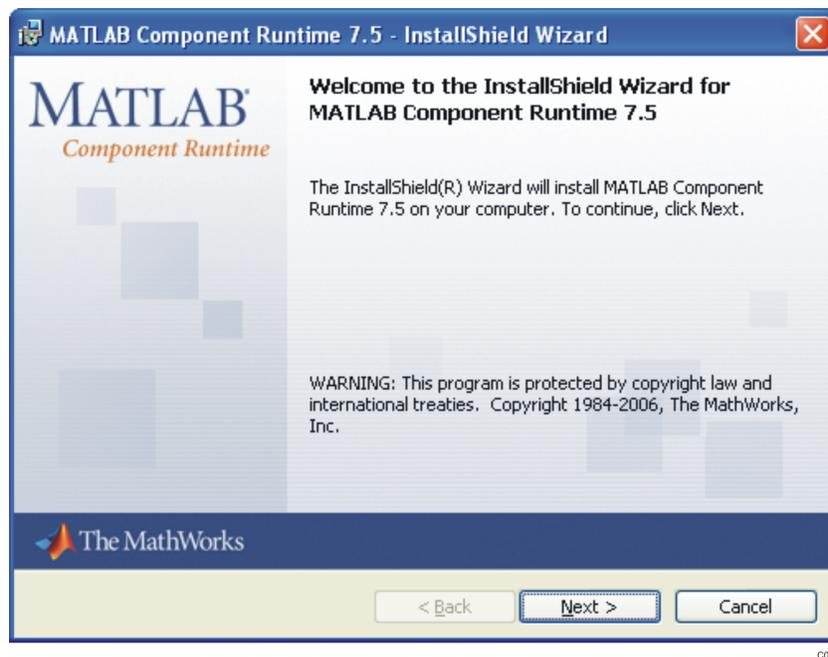

Figure 3. MATLAB Welcome Screen
2. When the *MATLAB Component Runtime 7.5* screen (Figure 3) displays, click *Next*.